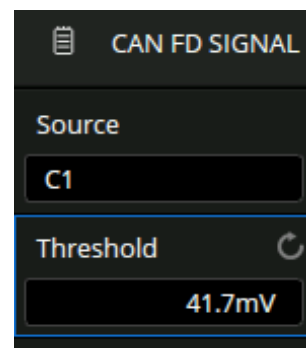

Figure 10.34 CAN FD Signal Menu
1. The **CAN FD** menu will be displayed. (Figure 10.34)